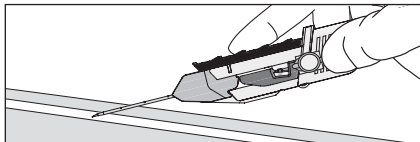

Figure 6
- Carefully advance as needed to ensure needle bevel is seated within the vessel (refer to Figure 6).